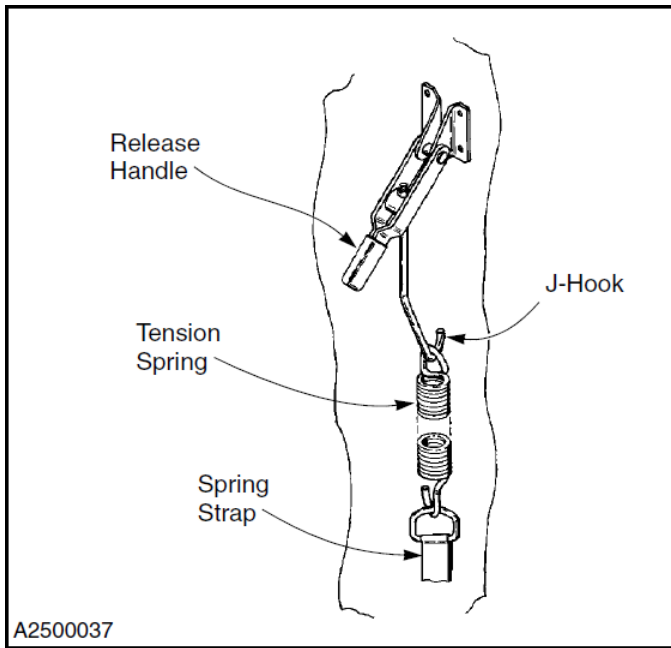

Figure 6
4. Unlatch the release handle on the spring tension assembly. (See Figure 6)